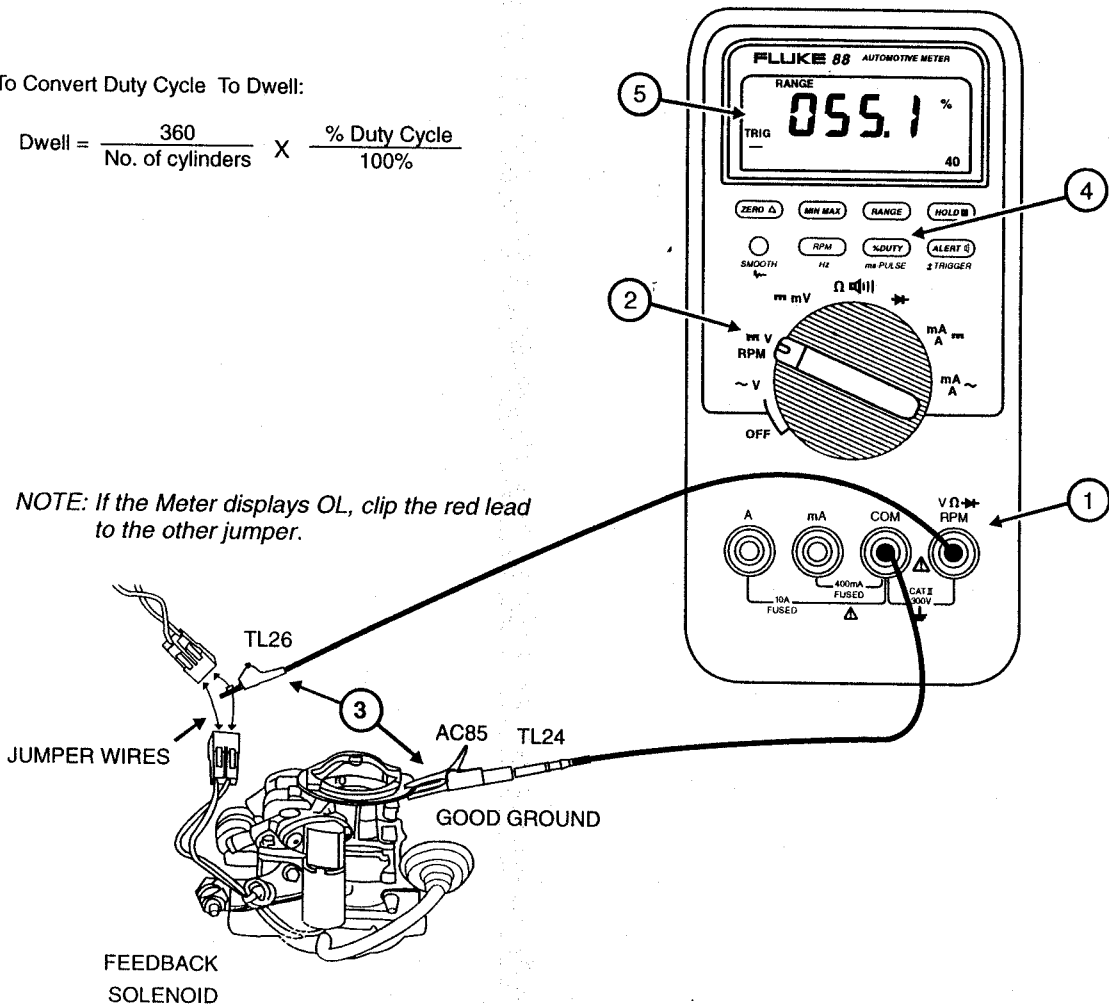

Figure 13. Measuring Duty Cycle on a Feedback Carburetor
Dwell is the number of degrees of distributor rotation that the points remain closed. To convert duty cycle to dwell, refer to the Quick Reference Guide or the Duty Cycle to Dwell Conversion Chart in Appendix A. You can also use the formula shown in Figure 13.
1. Insert test leads in the input terminals shown in Figure 13.